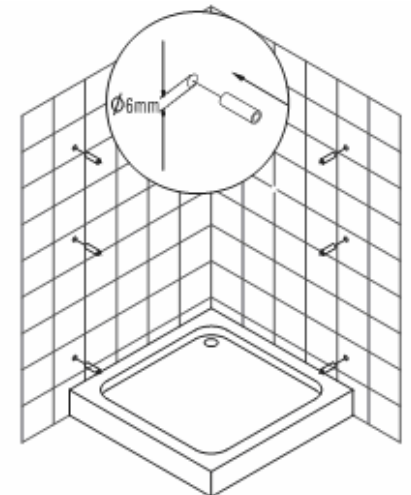

Fig 2
2. Drill with 6mm drill bit, and fit wall plugs **O6152 Fig 2**